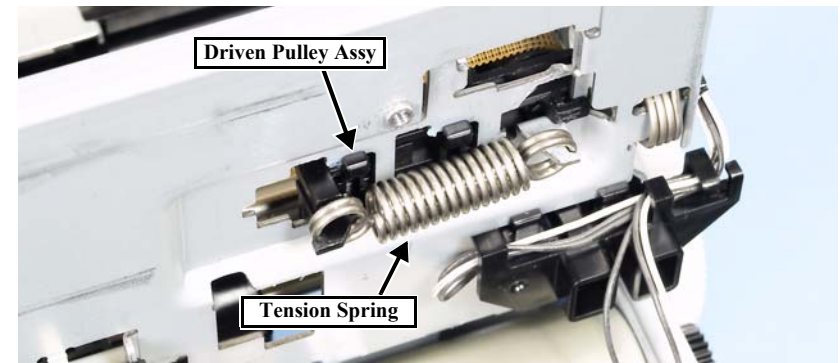

Figure 4-69. Removing the Tension Spring
3. At the rear of the printer, remove the tension spring of the Driven Pulley Assy. (Fig. 4-69)